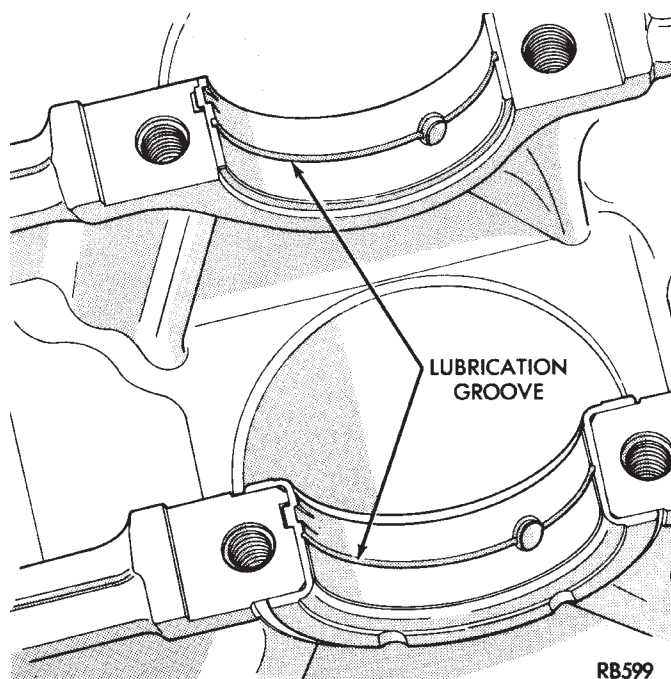

Fig. 12 Installing Main Bearing Upper Shell
(2) Install the main bearing shells with the lubrication groove in the cylinder block (Fig. 12). The 1,